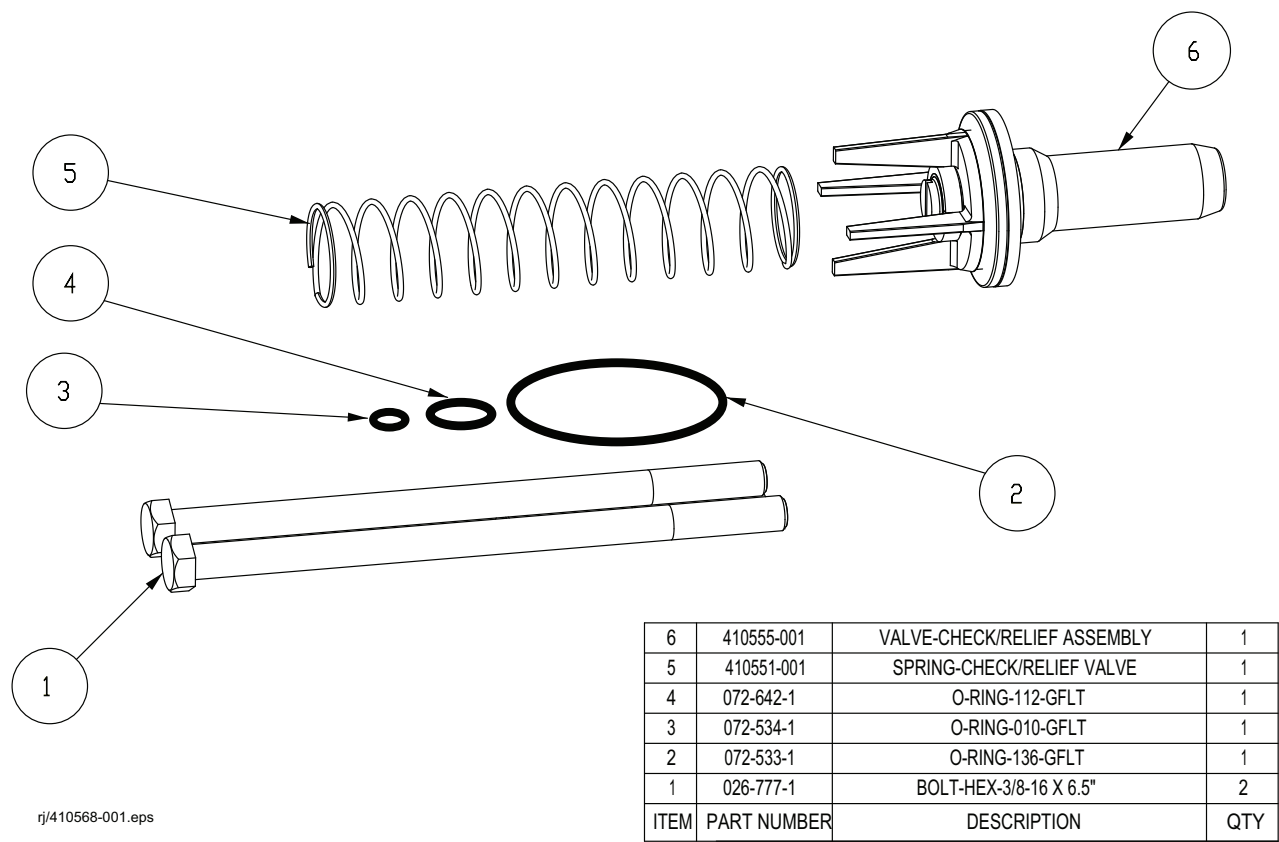

Figure 9. Service Kit 410568-001 Check/Relief Valve (Pressure Relief Version), Spring, Fasteners, Seals
- Service Kit 410568-001 Check/Relief Valve (Pressure Relief Version), Spring, Fasteners, Seals (See Figure 9).